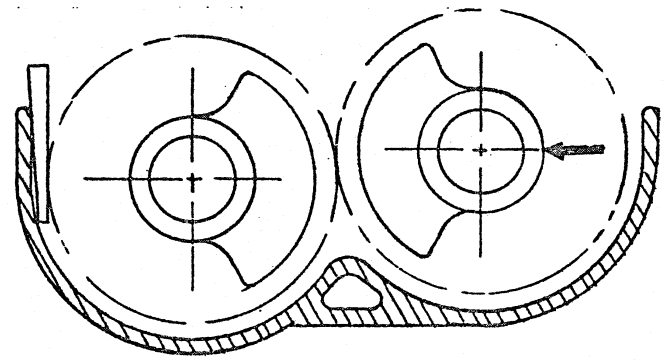
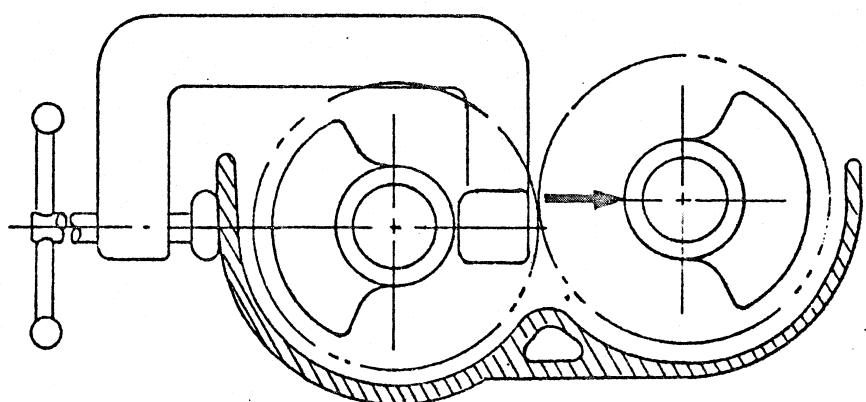

FIG. 1
FIG. 2
3. At assembly backlash between counterweights must be .003 to .024. Check for .003 minimum backlash when gears are turned inward and crowded together as shown in Fig. 1. Check for .024 maximum backlash when gears are turned outward and pulled apart as shown in Fig. 2